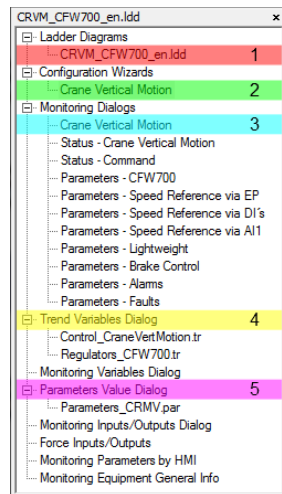

Figure 6.1 – Project Tree
Using WLP programming software can implement or change ladder application of Crane Vertical or Horizontal Motion Application, configure the parameters through the Configuration Wizards (2), monitor parameters and variables through the Monitoring Dialogs (3), monitor variables through Trend Variables Dialogs (4), and upload/download drive parameters CFW700 through the parameter Values Dialogues (5). The figure 6.1 presents the project tree where the functions mentioned before.